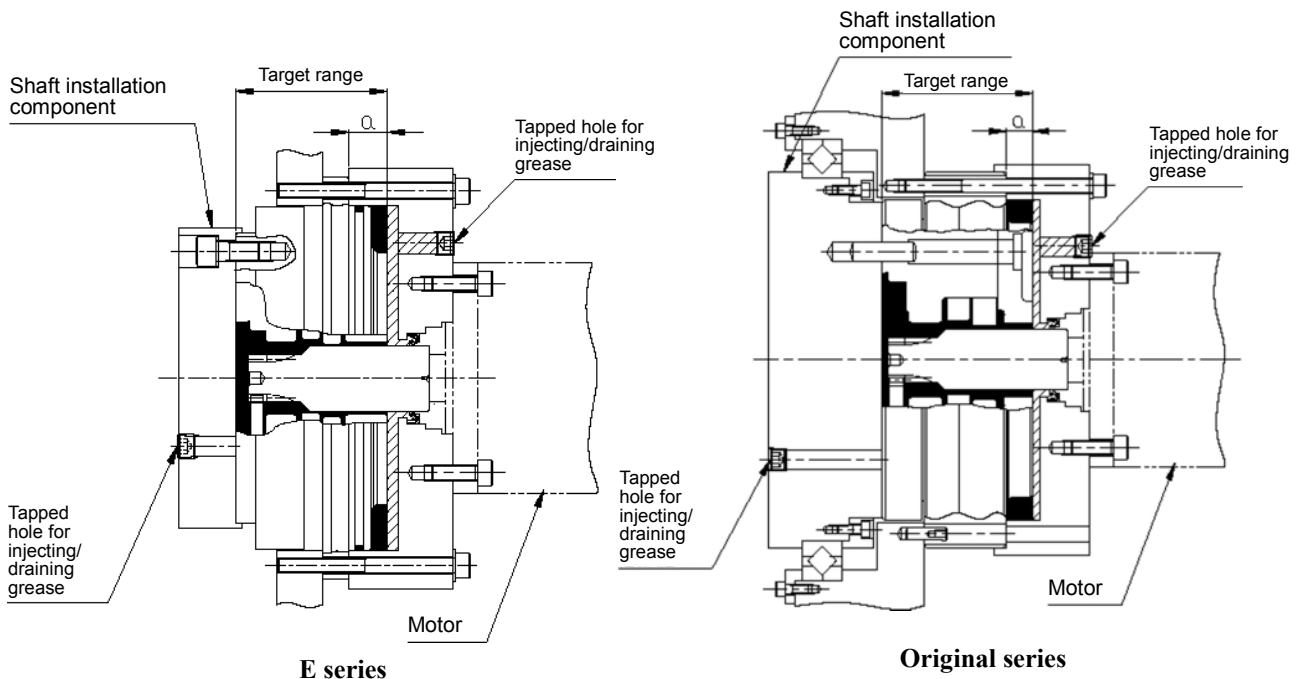

Fig. 6-1
The amount of lubricant the reduction gear requires and the target range (the  areas in the diagram) when the reduction gear is installed in the horizontal shaft are indicated in Fig. 6-1. Each amount does not include the space (the  areas in the diagram) on the motor mounting side. Therefore, if there is a blank space, also fill the space. Leave a space about 10% of the total volume of the internal capacity of the reduction gear (the  areas in the diagram) and the space on the motor mounting side (the  areas in the diagram). For the amount of lubricant for the products not included in the catalog, contact our service representative individually.
- The shape of the reduction gear may differ from the illustration in Fig. 6-1 and Fig. 6-2 above, depending on the ordered specifications. For details on the shape, refer to the catalog and the separately provided "Outer dimensions" drawings and specification sheet.